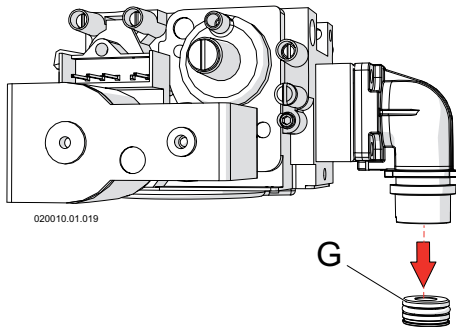

Figure 12-5 Gas orifice
- 13 - replace orifice "G" of Figure 12-5, for the correct one for type of gas used. Verify that the stamping on the orifice matches the Figure 12-7;